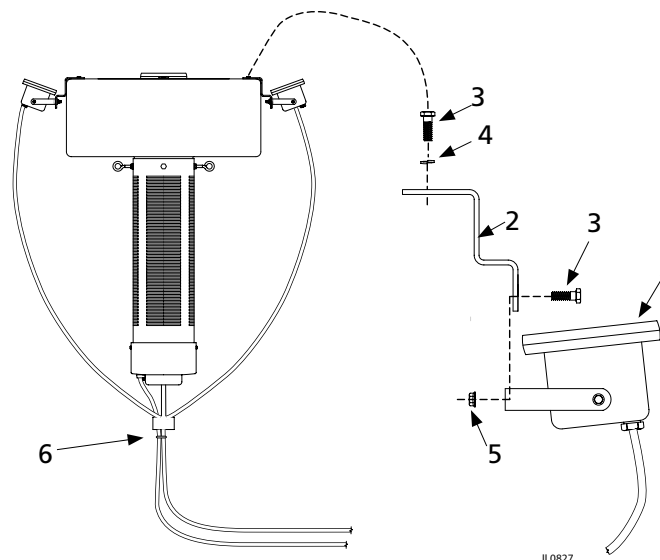

Figure 1 - Installation
- b. 7/16" wrenches (2)
2. Install Nightbright lighting system to float. (See Fig 1).
- a. Assemble lights (1) to mounting brackets (2) using bolts (3), and locknuts (5).
- b. Attach light/bracket assemblies to the threaded inserts in top of float, using bolts (3) and lockwashers (4). (Install in alternating inserts if 6 inserts are present in float.)
- c. Adjust lights to provide desired illumination. (See Fig 1).